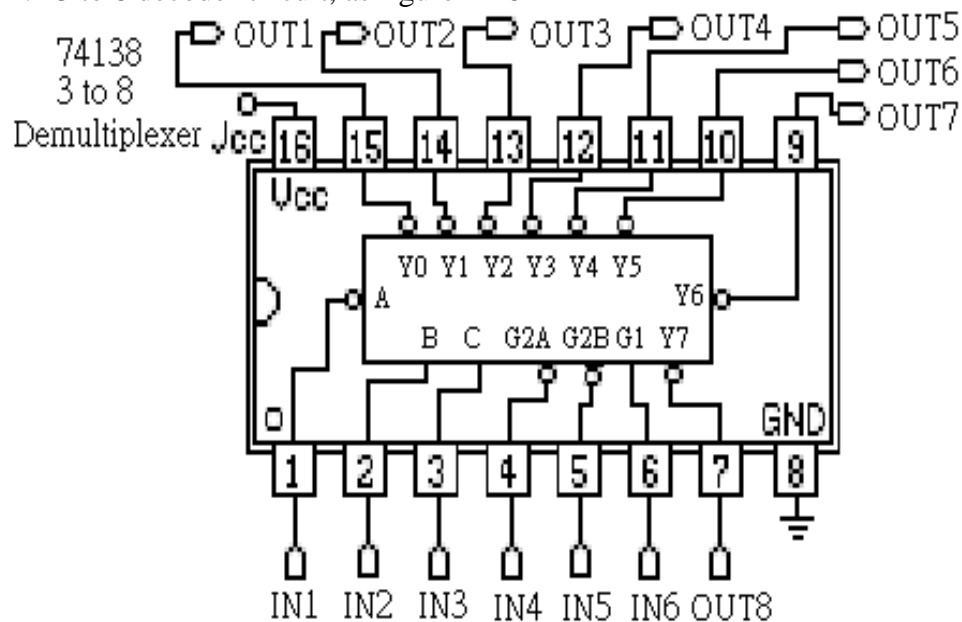

Figure 4-18
1. 3 to 8 decoder circuit, as figure 4-18